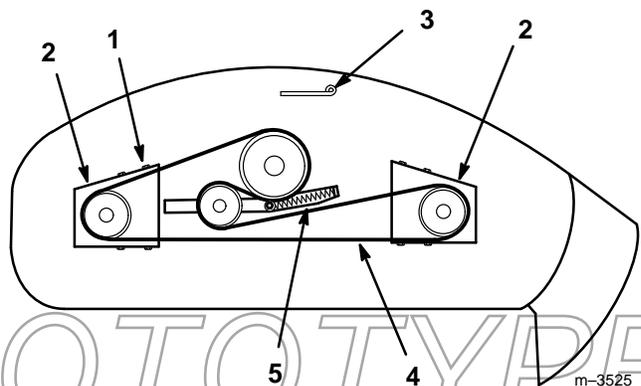

Figure 35
2. Remove the pulley cover mounting screws and pulley covers from the blade pulleys (Fig. 35).
3. Release the spring (Fig. 35).
4. Remove the belt from the pulleys (Fig. 35).
2. Attach the spring (Fig. 35).
3. Install the left and right pulley covers with the mounting screws (Fig. 35).